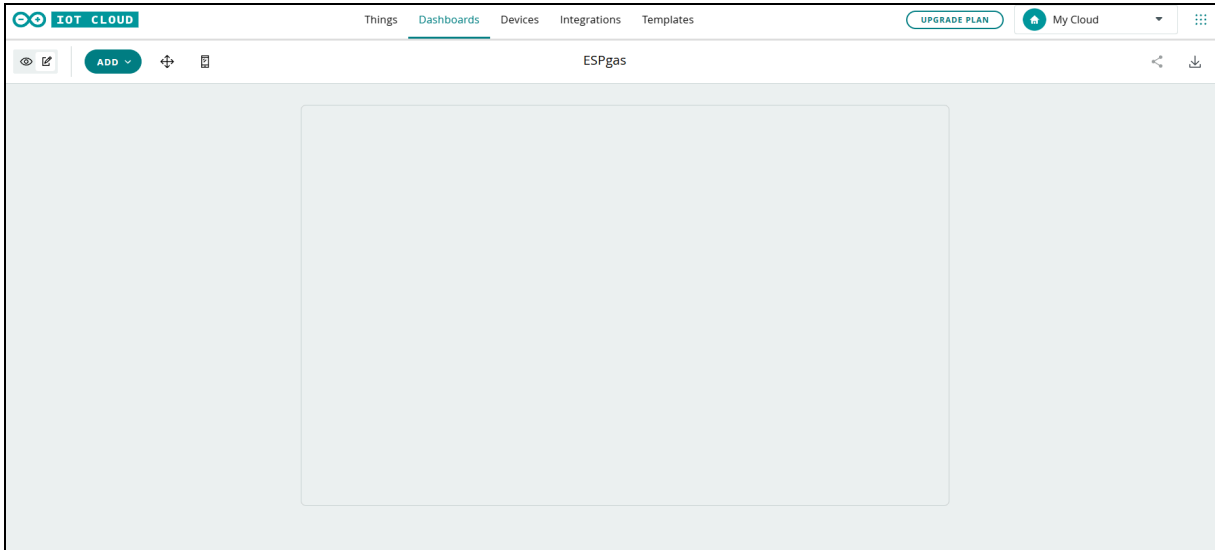

Fig. 21: Dashboard
2. Then, click on the "*Build dashboard*" button. A dashboard will appear as shown in Fig. 21. Here, you can observe your variables value, can control various parameters and can observe real time data!